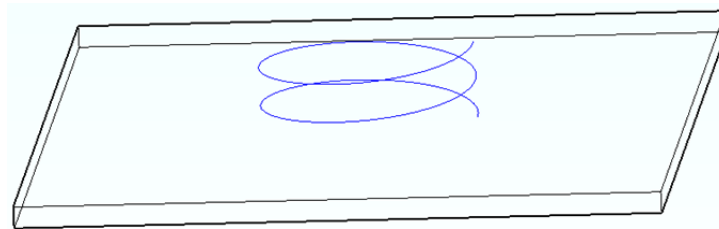

Figure 74: Circle with Z Step Example
- Z Step – defines the increase in Z coordinate per revolution. For example, a circle with a start angle of 0 degrees, an end angle of 720 degrees, and a Z step of 1mm looks like the pattern in Figure 74.